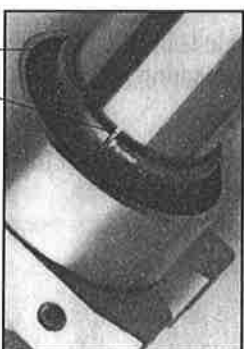

Fig. 16
3. Slide a new slider bushing over the stanchion. Lightly grease the outside of the bushing with Teflon grease. Make sure that the slot in the slider bushing is pointing to either side (Fig. 16), but not to the front or back of the slider.